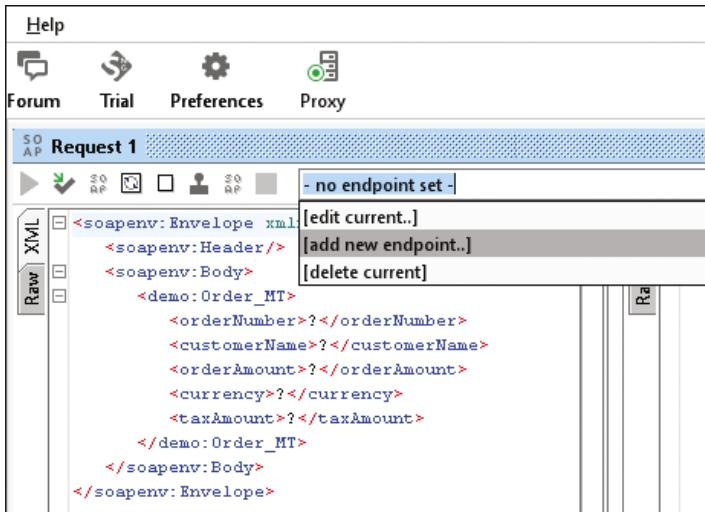

Figure 2.39 Adding a New Endpoint in SoapUI
1. Open SoapUI, and double-click **Request 1** in the expanded tree on the left side of the split screen (see Figure 2.39).
2. To tell SoapUI where to send the message, you need to specify an endpoint. In the dropdown list in the header of the **Request 1** window, select [**add new endpoint...**] (see Figure 2.39).